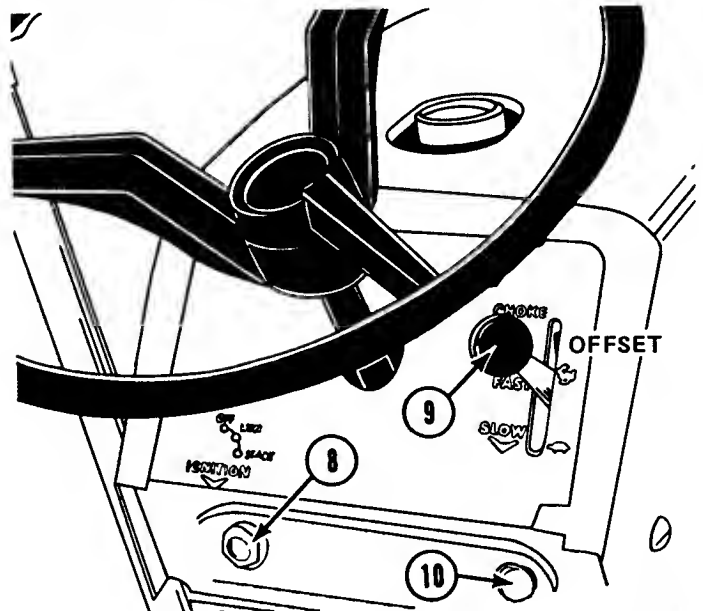

Figure 6
## **IGNITION AND STARTER SWITCH – Figure 6**
## **THROTTLE-CHOKE CONTROL LEVER – Figure 6**
## **LIGHT SWITCH (Optional)–(Figure 6)**
5. Raise throttle choke control lever **9** Figure 6, past the offset in the slot to the "choke" position.
6. Turn ignition key **8** shown in Figure 6 clockwise all the way. Release key as soon as the engine starts and gradually lower the throttle-choke control lever past the offset until the engine runs at ½ throttle.